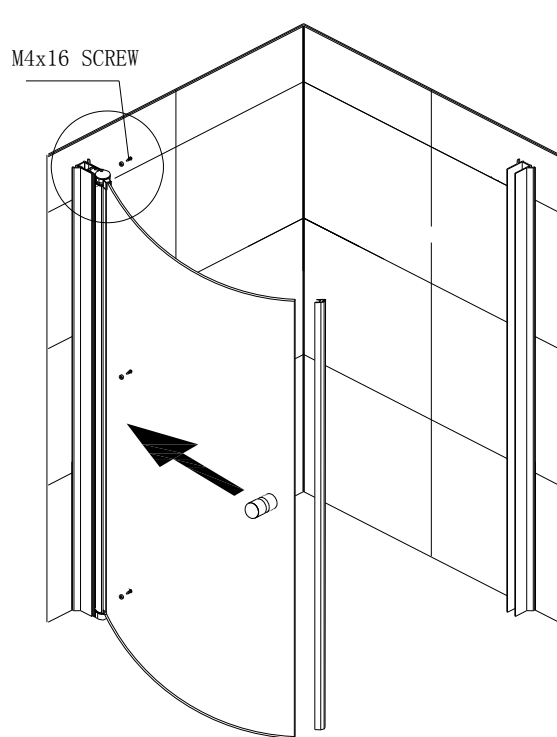
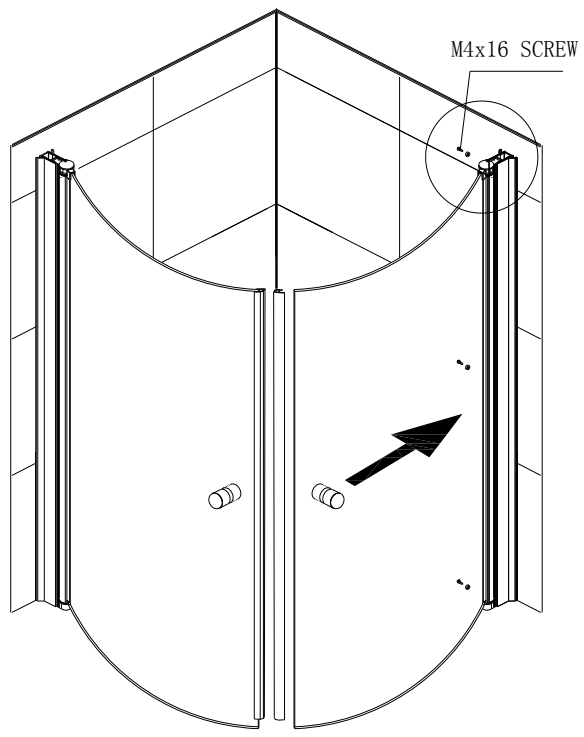

Fig. 4
Fig. 5
- 4). Use the M4 X16 screws to connect the pivot doors with the wall profiles. Then, fix it with the magnet strips and handles. As FIG.4. FIG.5